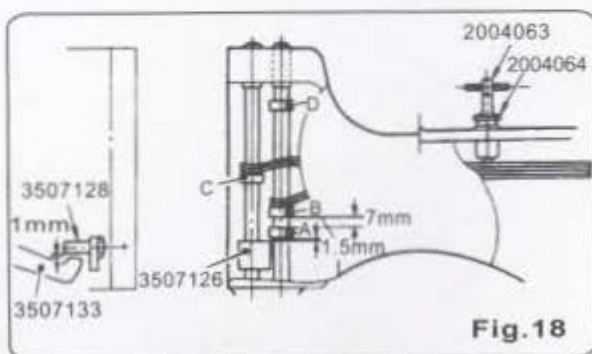

Fig.18
1. Adjust and set presser bar holder (3507126) so that the clearance between presser lifter lever (3507133) and presser lifter pin (3507128) is 1mm, as shown in (Fig. 18)